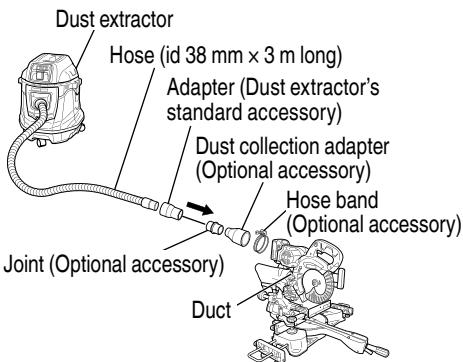

Fig. 52
15. Connecting the dust extractor (Sold separately) (Fig. 52)
Connection is done by pressing in the direction of the arrow. (Fig. 52)